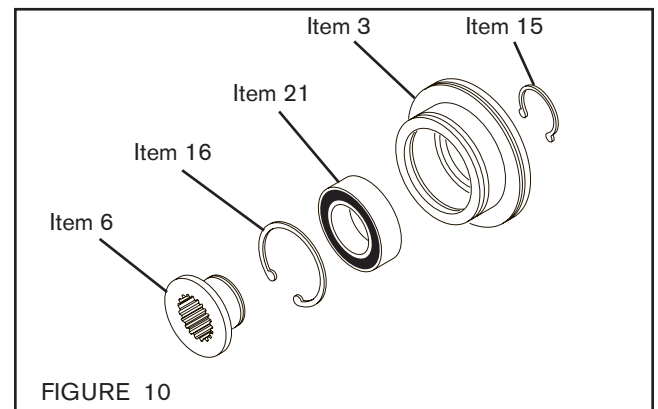

FIGURE 10
2. Remove Retaining Ring (Item 15) and press the Friction Disc (Item 6) out of the old Bearing (Item 21) (See Figure 10).
3. Remove the Retaining Ring (Item 16) and press the old Bearing (Item 21) out of the Piston (Item 3) (See Figure 10).